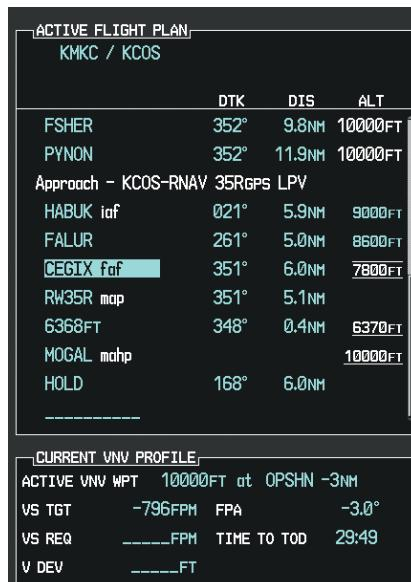

Figure 5-129 Vertical Guidance is Active to the FAF
- 13)** Note the altitude constraints associated with each of the approach waypoints as seen in Figure 5-129. These altitudes are loaded from the database and are displayed as light blue text, indicating these values are "designated" for use in computing vertical deviation guidance.
Altitude constraint values associated with the Final Approach Fix (FAF) and waypoints beyond the FAF cannot be designated for vertical guidance. These altitude values are always displayed as white text, as in Figure 5-129. Vertical guidance from the FAF and on to the Missed Approach Point (MAP) is given using the WAAS GPS altitude source, therefore, the displayed altitude values are for reference only.